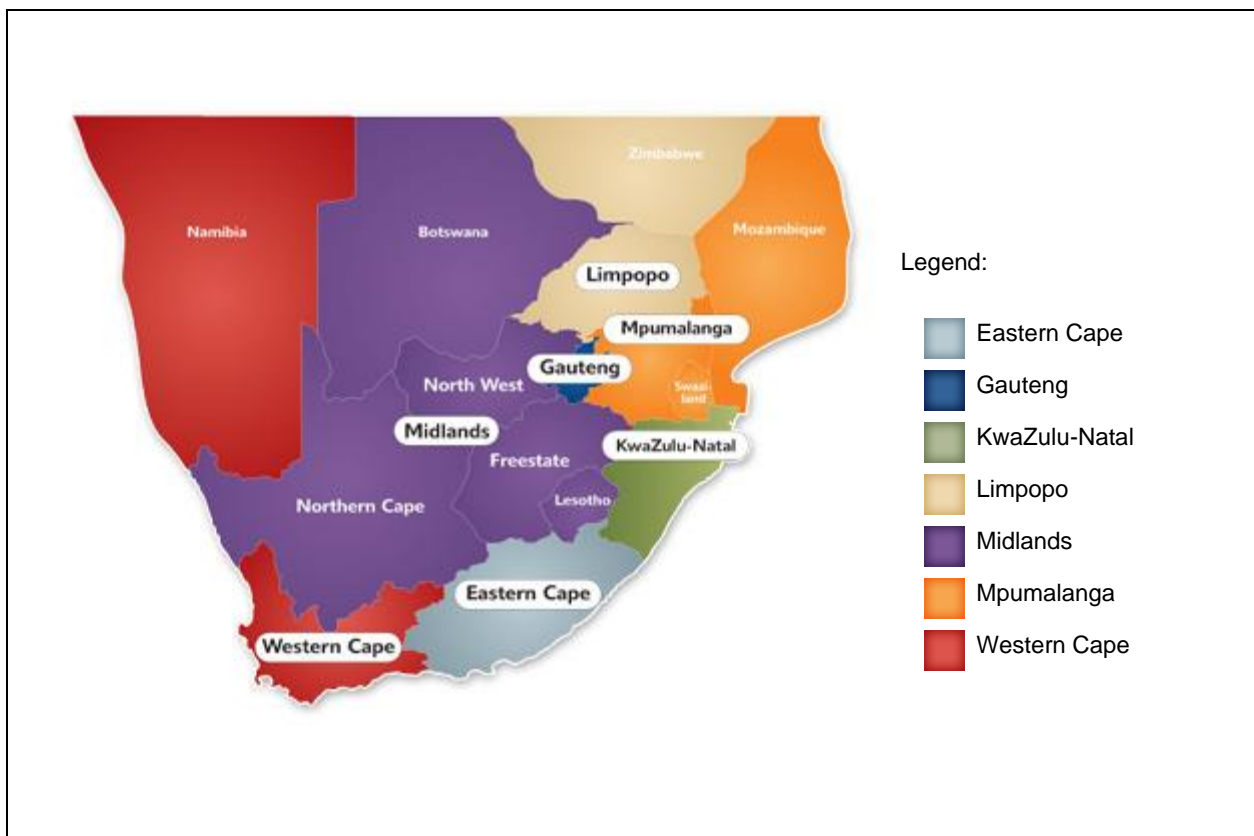

Figure1.1: UNISA Regional Centers
The University of South Africa (UNISA) Fit-Out Baseline Document intends to provide guidelines and direction on the Refurbishment, Fit-Out & New Construction Projects at the University. Furthermore, UNISA recognizes its obligation towards compliance with the provisions of the SANS-10400 & NBR, in terms of compliance and the minimum standards required. UNISA is a comprehensive and open distance learning institution, which is comprised, of 7 Regional Centers across South Africa (SA) as depicted in Figure 1.1 below.